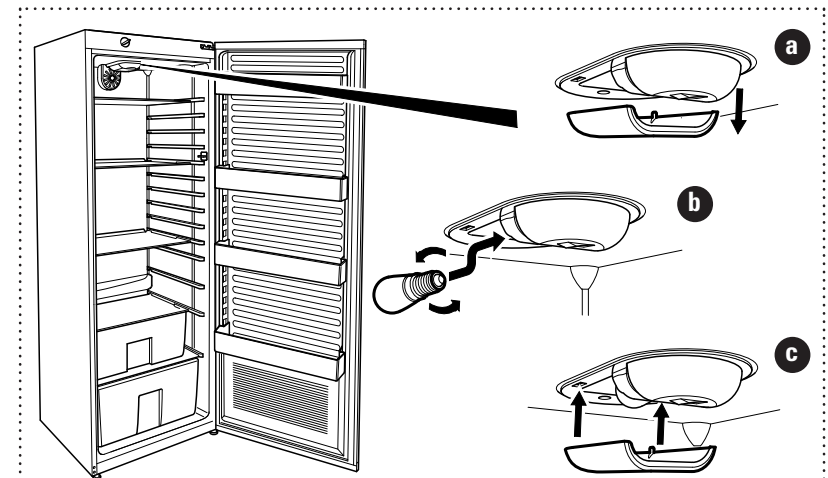

Figure 8
- 2 Remove the light cover using a screwdriver to release the claws (Figure 8 a).
- 3 Unscrew the bulb by turning it clockwise, and remove (Figure 8 b).
- 5 Re-fit the light cover, by pushing it upwards until it clicks back into position (Figure 8 c).